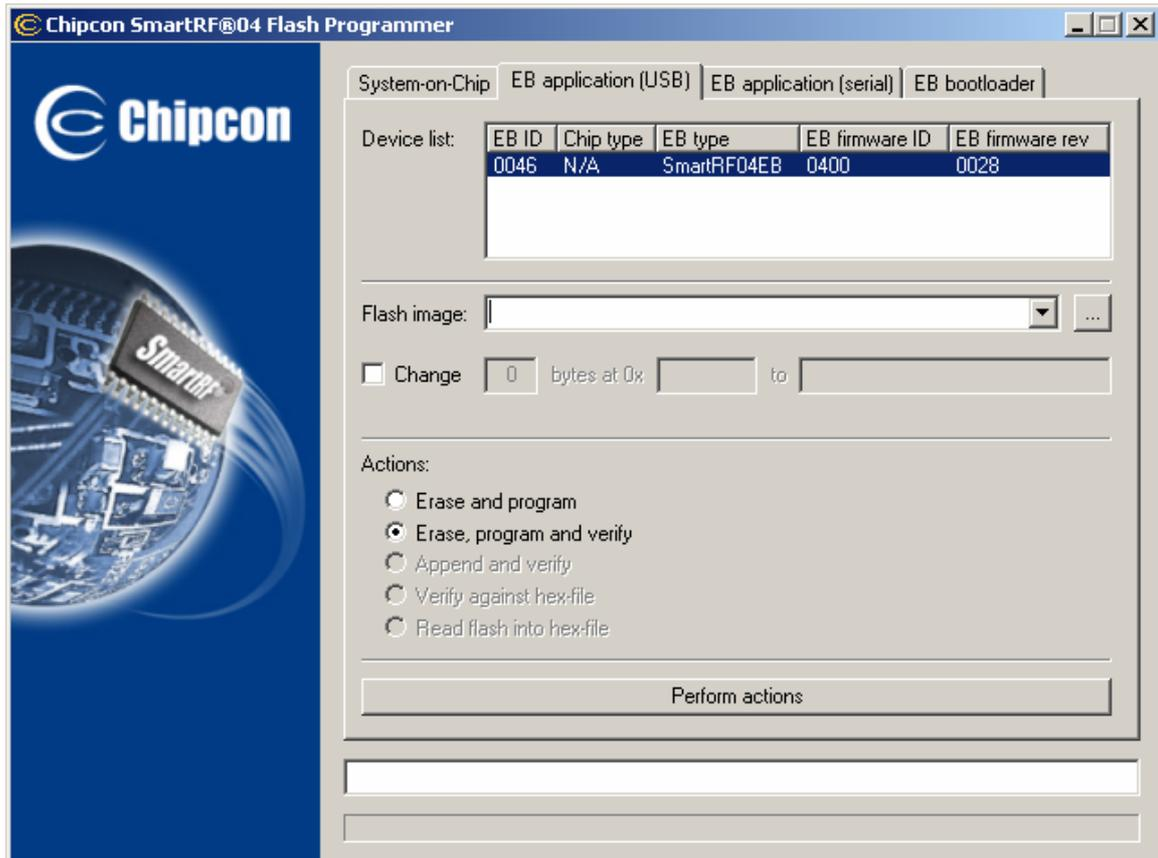

Figure 7. EB Application (USB) Tab
- Choose to the “EB application (USB)” tab as shown in Figure 7.
- The SmartRF[®]04EB does not show up in the Flash Programmer EB Application (USB) Tab (see Figure 7).